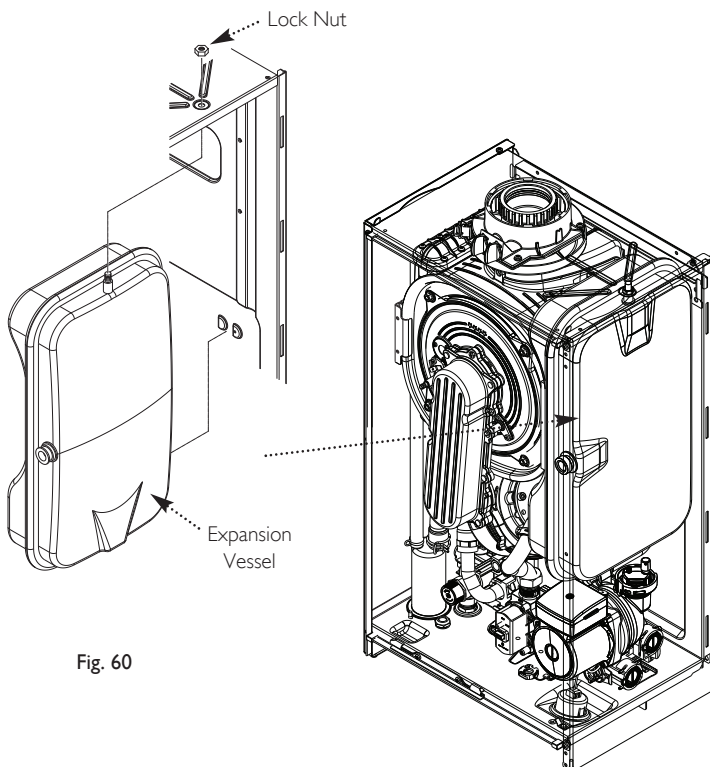

Fig. 60
13.17 Expansion Vessel (Fig. 60)